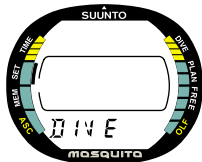

Fig. 4.7. Dive Setting Mode.
1. In the Setting Mode, press **S** three (3) times to select the Dive Setting Mode (Fig. 4.7.).